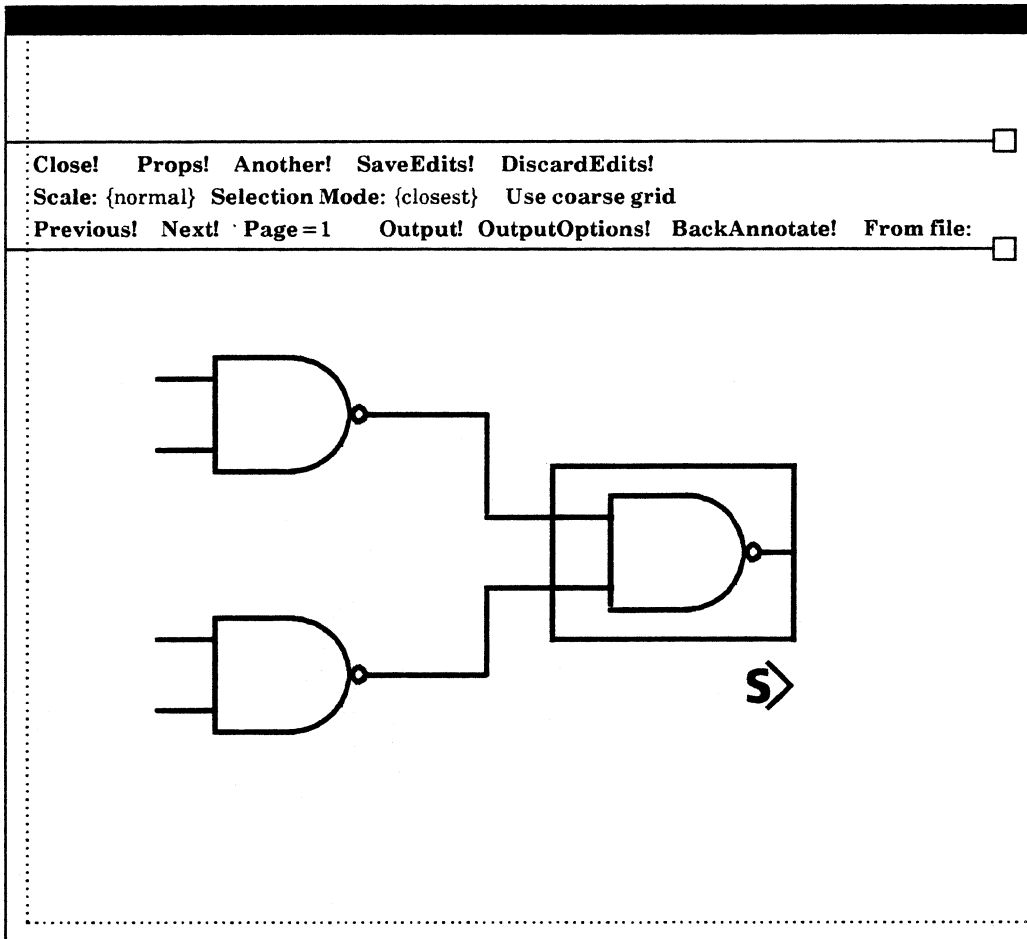

Figure 2.36
- 1) Point the cursor at the object, and press the left mouse button once (figure 2.36).